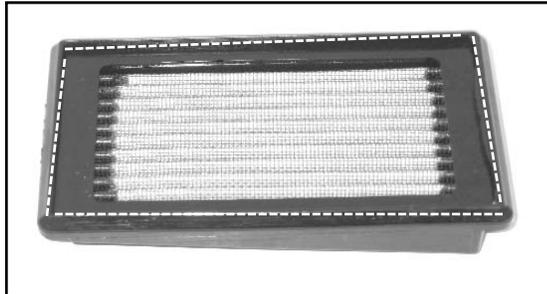

Fig. 1
3. Apply a small amount of the provided K&N Sealing Grease to the sealing surface of the air filter. (Fig. 1)